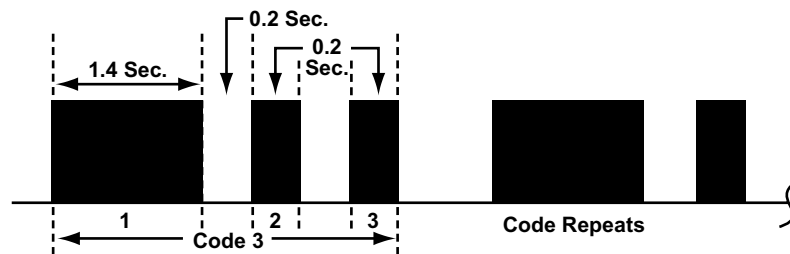

Figure 10-22 Isuzu RWAL ABS Code Type
- Rear wheel antilock (RWAL), see Figure 10-22 and Table 10-5 on page 111